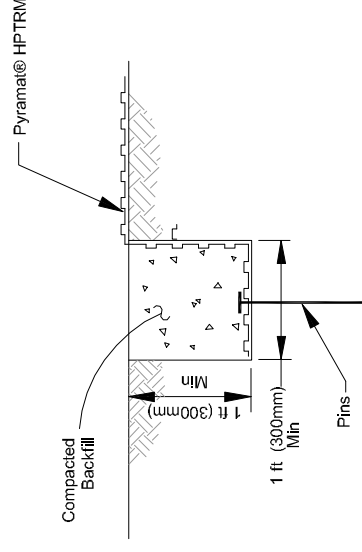

FIGURE 3: LONGITUDINAL EDGE TRENCH DETAIL
- Excavate longitudinal edge trenches 12 in wide x 12 in deep (300 mm x 300 mm) minimum along both sides of the installation to bury edges of mat (see Figure 3). The longitudinal edge trenches shall be located along the first and last installed rolls.
- Secure longitudinal edge trench with pinning devices on 12 in (300 mm) centers (see Figure 3).